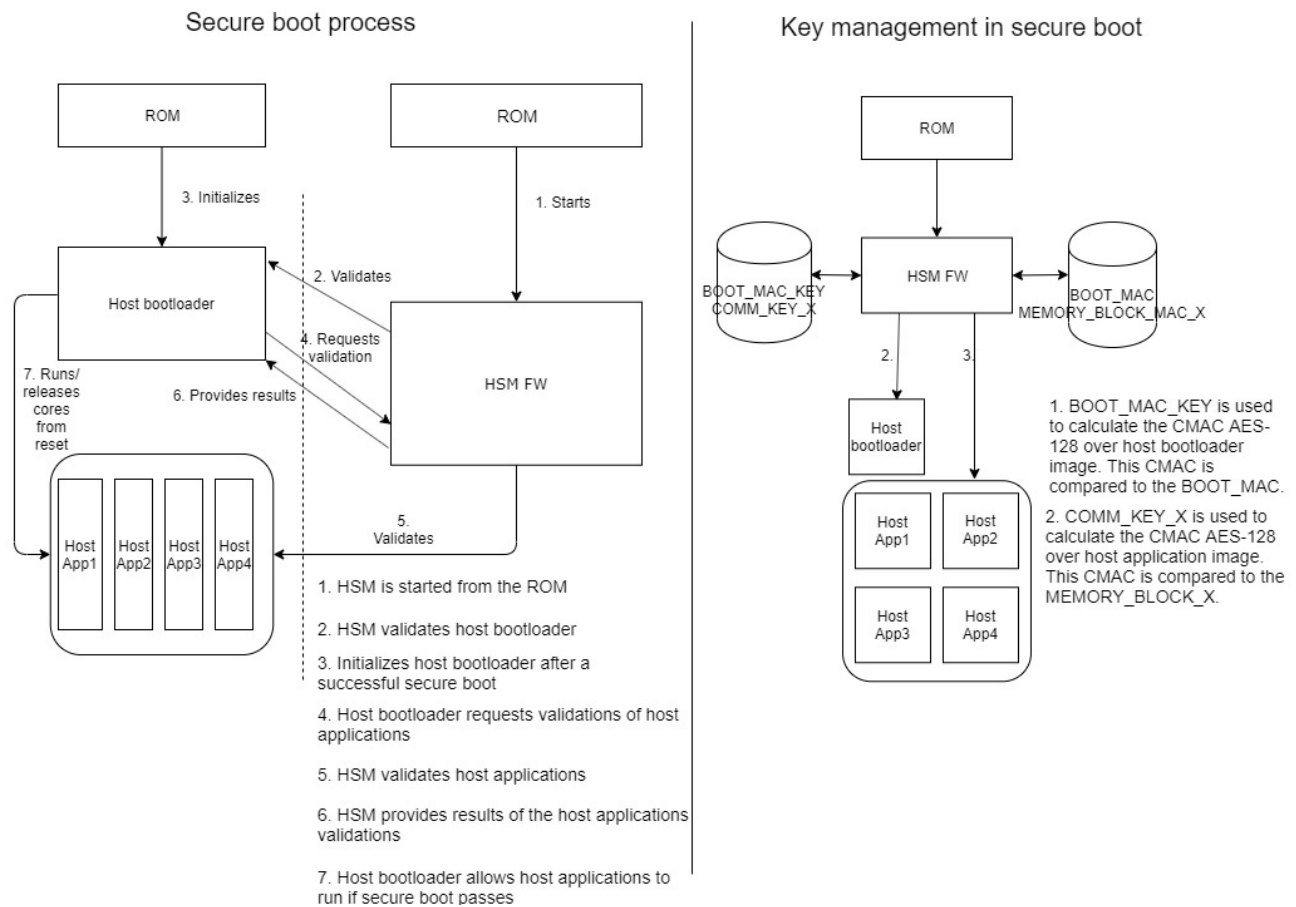

Figure 3.2. Secure boot procedure
- ▶ Secure boot procedure: Figure 3.2, “Secure boot procedure”